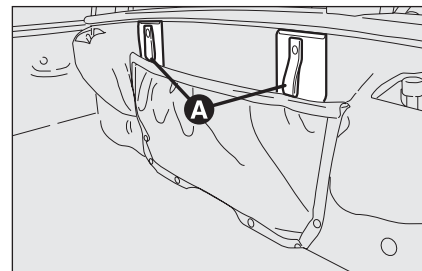
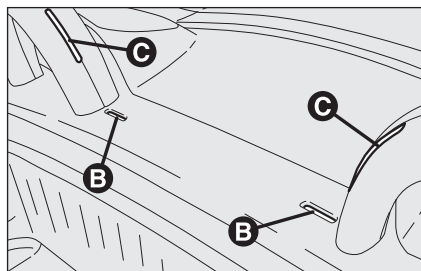

fig. 76
fig. 77
- ☐ Open the two doors pulling the relevant tongs **A-fig. 76** and unscrew the two knobs that fix the plugs. Remove the plugs and insert the Wind stopper in the two horizontal slots **B-fig. 77** and in the two side slots **C** on the roll bar and make sure that they are properly positioned.